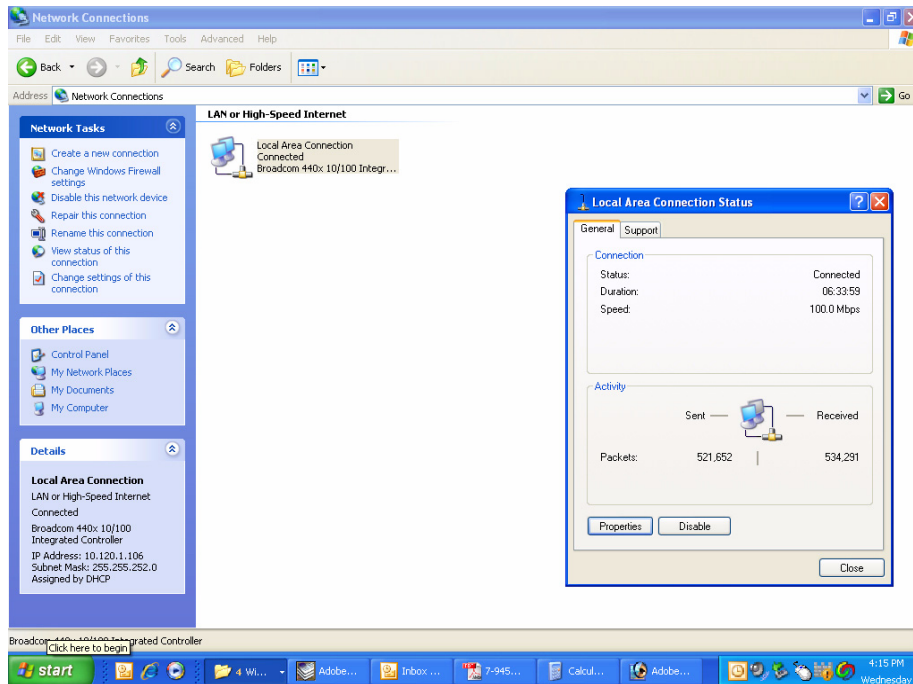

Figure B4: Select the "Properties" tab.
- 5) The “Local Area Connection Status” box will open. Single click the “Properties” tab as shown in **Figure B4**. **Note:** If you do not have the cable connected between the service computer and the booster front panel the “Local Area Connection Status” box will not open. Instead proceed to step 6.